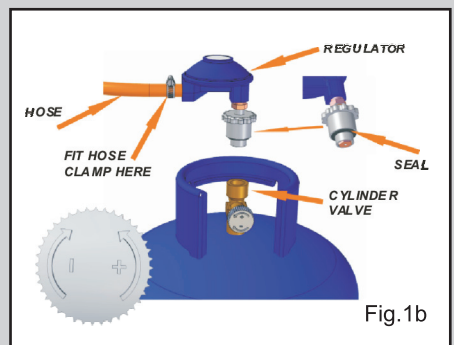

Fig.1b
- The hose length should not be less than 0.8m or exceed 1.2m. Check the date of manufacture on the hose and replace if it shows signs of cracking or brittleness. Fitting of a hose is described in Figure 1b. Only an LPG hose that complies with local regulations may be used with this appliance.